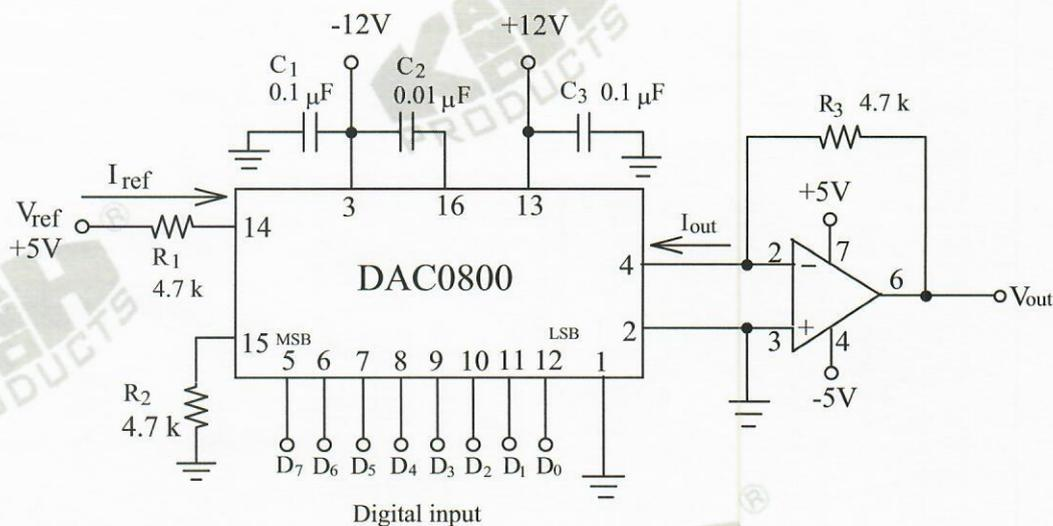
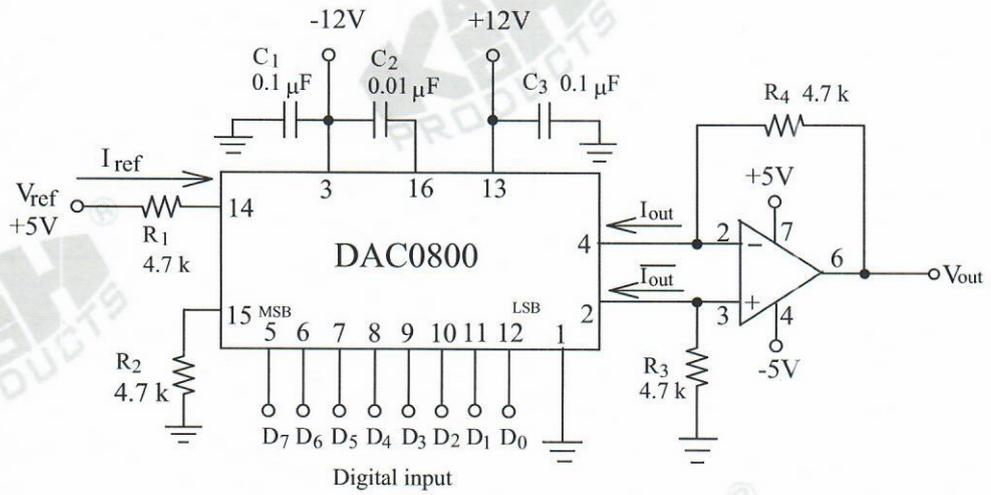

Fig.10-6 DAC0800 unipolar voltage output circuit
Fig.10-7 DAC0800 bipolar voltage output circuit
Fig. 10-6 shows the unipolar voltage output DAC using the DAC0800 with $\mu A741$. The $V_{ref(-)}$ pin is grounded through the resistor R_2 . The positive reference source +5 V is applied to $V_{ref(+)}$ pin through series resistor R_1 . Therefore the reference current I_{ref} flowing through R_1 is found to be
The bipolar voltage output circuit of DAC0800 is shown in Fig. 10-7. The $\overline{I_{out}}$ pin is connected to the noninverting input of $\mu A741$ instead of to ground in Fig. 10-6. Thus the $\mu A741$ output voltage can be evaluated by
1. In Fig. 10-6, if the digital inputs are 01101010, calculate the output voltage by the weight of bit.